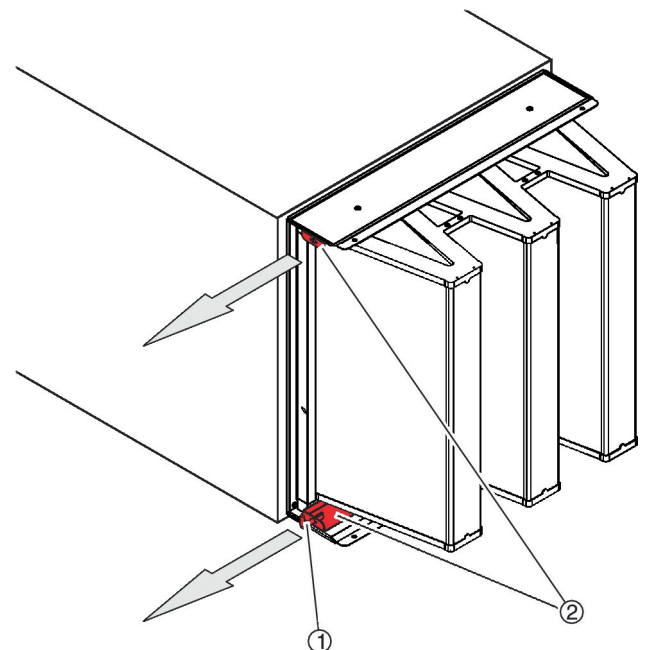

Fig. 25: Releasing the clamping rails
4. ▶ Use the special key (Fig. 25 /1) to pull out the clamping rails (Fig. 25 /2) as far as they will go.